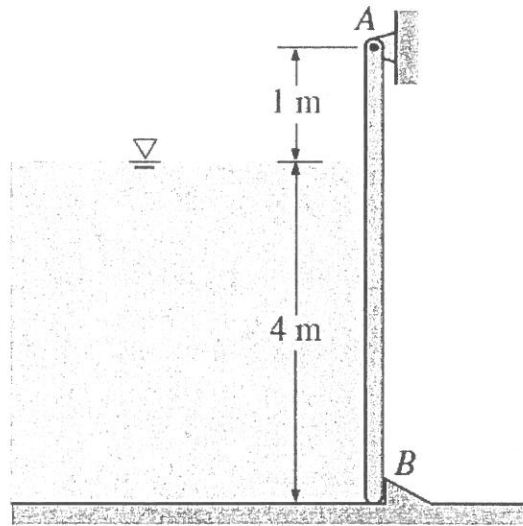

Figure Q2 (a)
- (a) Figure Q2 (a) shows a 5-m-high, 5-m-wide rectangular plate used as a gate to control the freshwater inside a channel. The gate is hinged at point A and is restrained from opening by a fixed ridge at point B. Determine the force at point B to hold the gate.